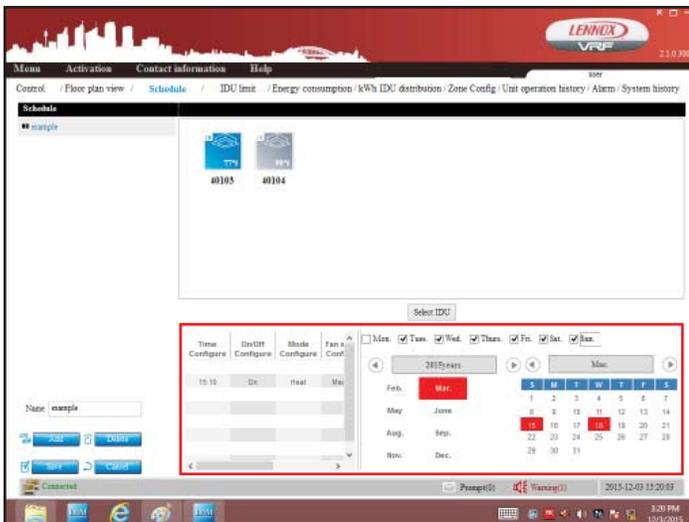

Figure 33. Make Changes to Schedule
2. Make any changes to the schedule using the fields on the bottom right of the screen. See figure 33.